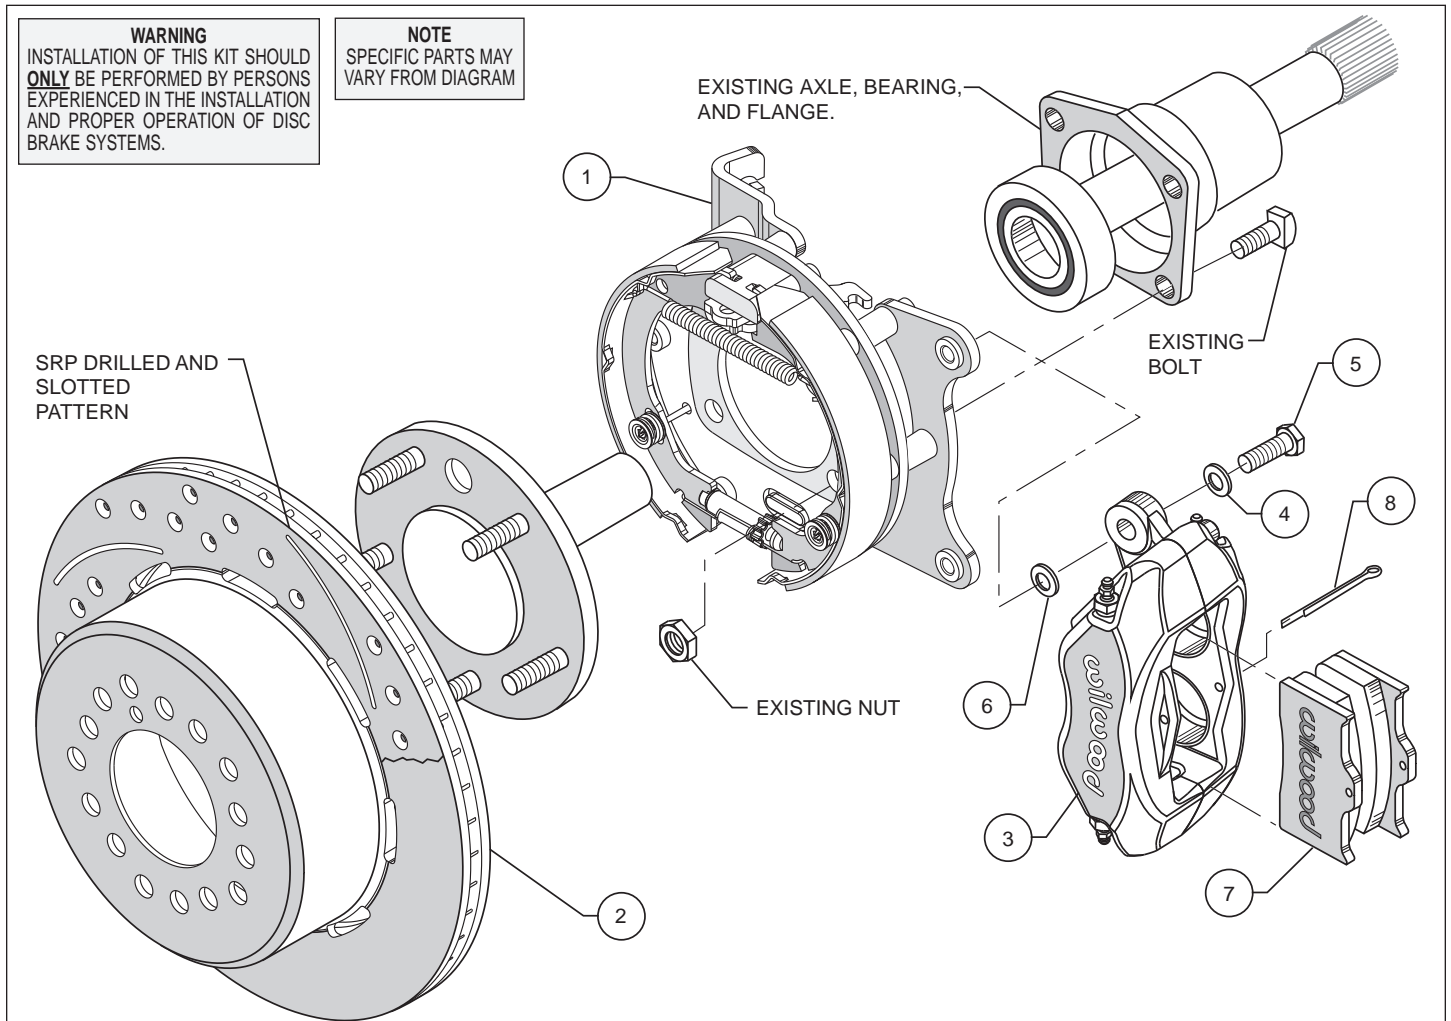
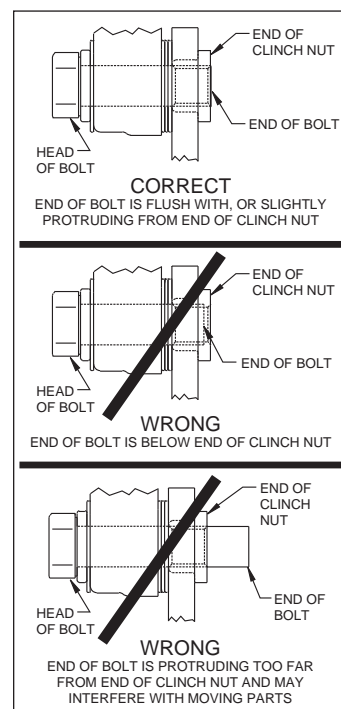

Figure 1. Typical Installation Configuration
Figure 4. Clinch Nut Engagement Diagram
Assembly Instructions (numbers in parenthesis refer to the part list, and Figure 1,-- on the preceding page): **CAUTION:** All mounting bolts must fully engage clinch nuts. Be sure to check that all bolts are either flush or protruding through flanged side of clinch nut after shimming, Figure 4.
- Orient the bracket assembly (1), as shown in Figure 1, and mount to the axle housing flange using the Original Equipment Manufacturer (OEM) bolts and nuts, Figure 1. Ensure that the bracket assembly backing plate fits flush against the axle housing flange. Apply red *Loctite*® 271 to the OEM bolt threads and torque to OEM specifications.
- **NOTE:** Please reference the caution statement at the beginning of the assembly instructions. Mount the caliper (3) onto the caliper mounting bracket (1) using bolts (5) and washers (4), as shown in Figure 1. Initially place one .035" thick shim (6) on each bolt between the caliper and the bracket, Photo 2. Temporarily tighten the mounting bolts and view the rotor (2) through the top opening of the caliper. The rotor should be centered in the caliper, Photo 3. If not, adjust by adding or subtracting shims between the bracket and the caliper. Always use the same amount of shims on each of the two mounting bolts. **NOTE:** The end of each bolt must be flush with or slightly protruding from the head of the clinch nut, as shown in Figure 4. If necessary place spare shims between washer (4) and caliper mounting ear to achieve the proper clinch nut engagement. Once the caliper alignment and clinch nut engagement are correct, remove the bolts one at a time, apply red *Loctite*® 271 to bolt threads, and torque to 40 ft-lb.